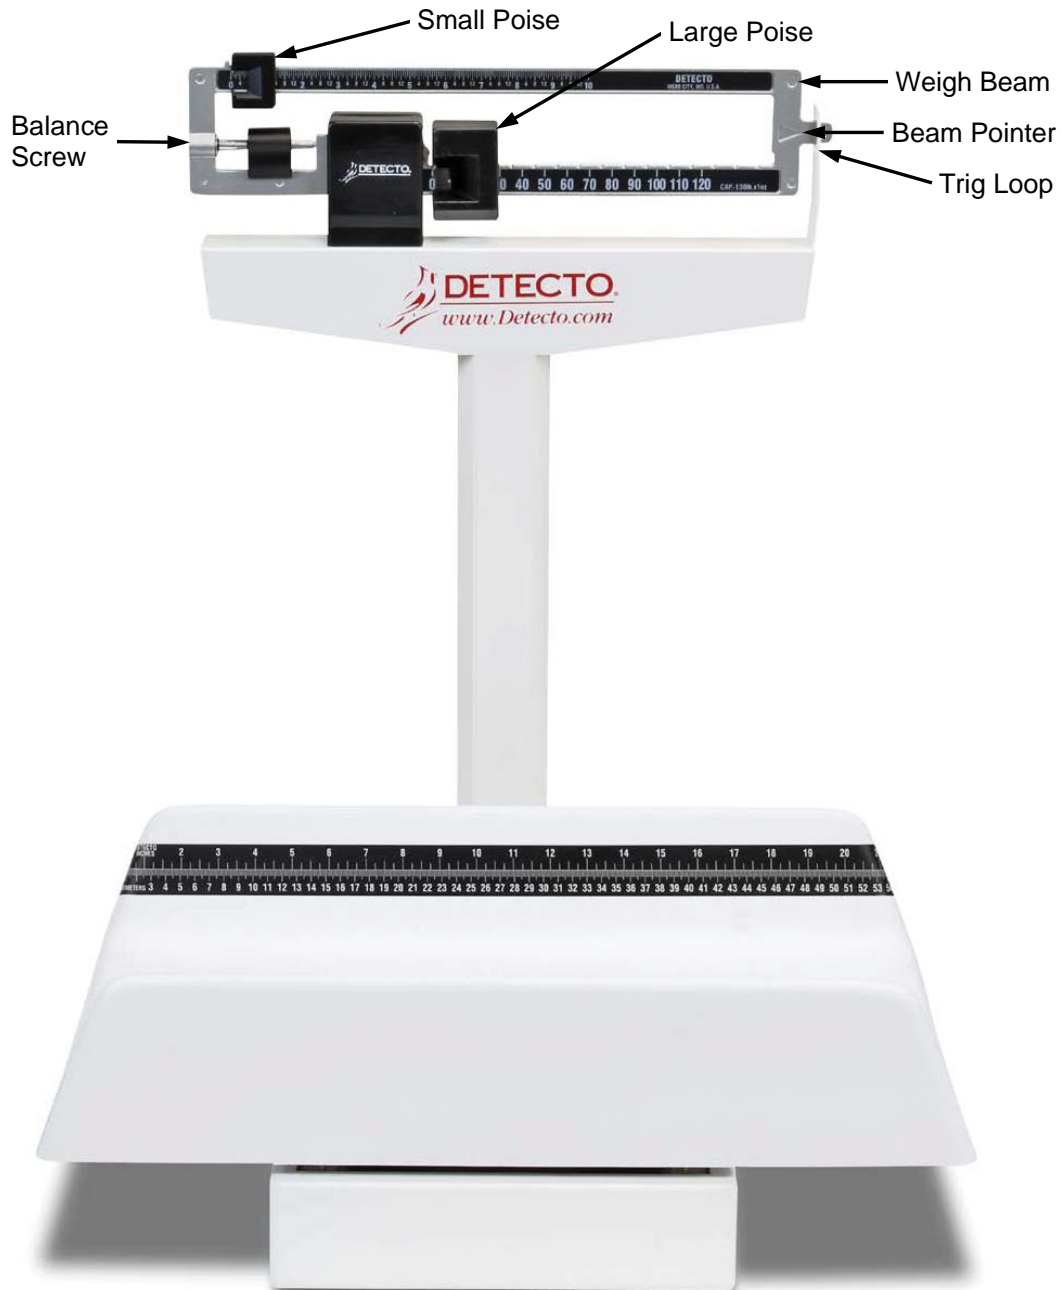

Figure 8 - View showing components for balancing scale prior to normal operation.
3. If the beam pointer doesn't remain centered, turn the balance screw (shown in Figure 8) to the right or left using a flathead screwdriver until the beam pointer remains centered within the trig loop.
Zero balance out of adjustment	<ul style="list-style-type: none"> The weighing beam must be balanced so the beam pointer comes to rest in the center of the trig loop when both the small and large poise are set at zero (far-left position). Refer to Figure 8 and the BALANCING THE SCALE instructions.